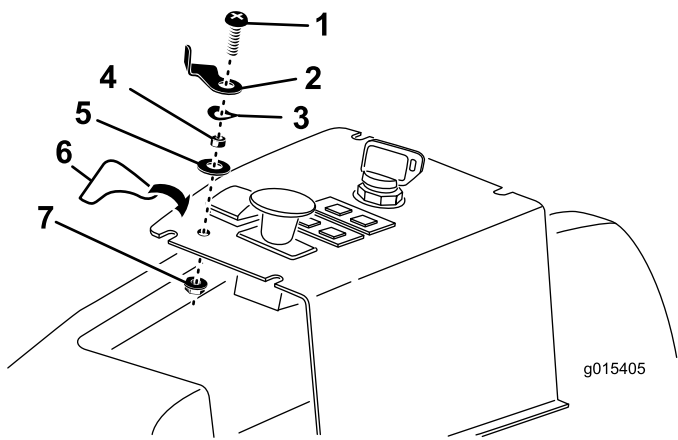

Figure 13
- Insert the LIFT-LOCK lever, spacer, wave washer, and flat washer onto the 1/4 x 1 inch pan-head screw positioning as shown in Figure 13.
4. Insert the LIFT-LOCK lever assembly screw into the control-panel hole and secure it with a locknut. Position the LIFT-LOCK lever as shown in Figure 13 .
5. Affix the LIFT-LOCK lever decal to the control panel as shown in Figure 13.